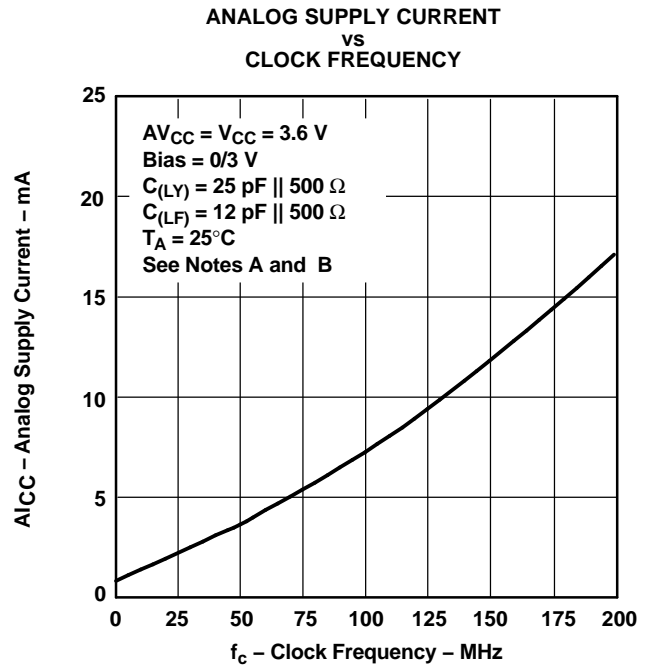
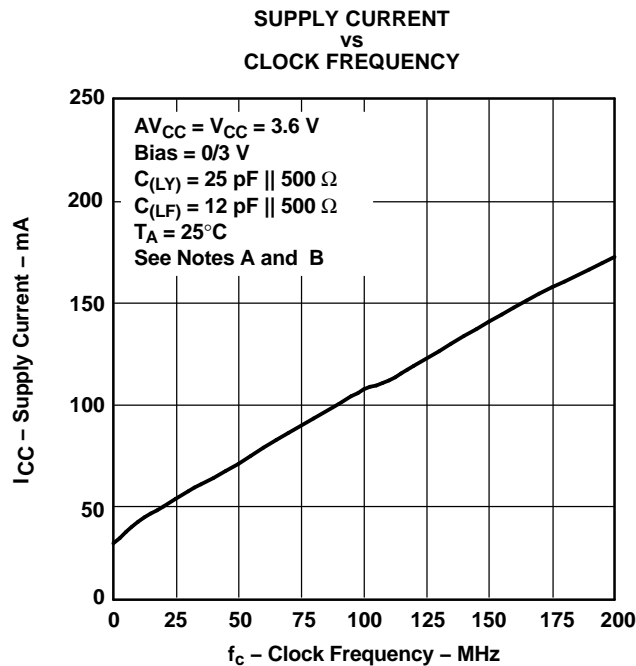

Figure 9.
Figure 10.
(1) For conditions shown as MIN or MAX, use the appropriate value specified under the *recommended operating conditions* section.
(2) For dynamic  $I_{CC}$  vs Frequency, see Figure 9 and Figure 10.